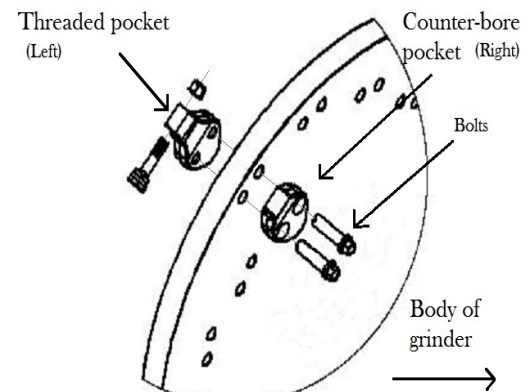

Figure 1.1
6. **Each set has a counter-bored and threaded pocket. In order for the teeth to mount properly the counter-bore must be installed on the right side of the wheel and threaded on the left.** Insert the bolts through the empty holes in the counter-bore pocket, slide through the wheel and thread them into the adjacent pocket's threaded holes. For now, firm up the bolts until pockets are seated. (Figure 1.1)